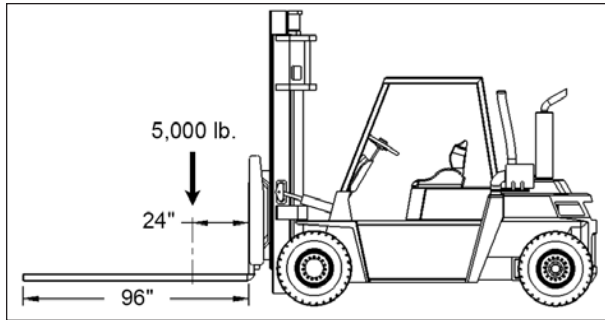

FIGURE 12: FORKLIFT MINIMAL LOAD AT 24"
- The forklift must have a minimal capacity of 5,000 lb. (2,268 kg) at 24" (610 mm) from the fork arm and 96" (2.44 m) length fork see Figure 12.